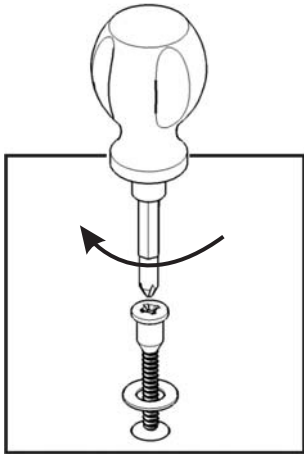

Figure 3
Attach Base (I) to unit with Washers, Long Screws and Cam Locks. (see Figure 3)
(Figure 3)
Insert short wood screws (4X) into the pre-drilled holes in L5, tighten screws. (See Figure 3)